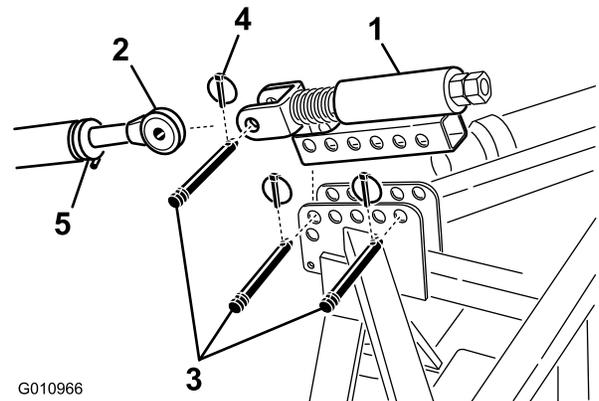

Figure 9
1. Mount the spring loaded top link to the aerator bracket with two link pins and lynch pins (Figure 9)
2. Loosen the lock nut on the tractor upper link. Adjust the upper link length until it aligns with the clevis on the spring loaded top link of the aerator (Figure 9).
3. Connect the tractor upper link to the clevis on the spring loaded top link and secure with a link pin and lynch pin (Figure 9).
6. Rotate the upper link until the spring is compressed by about 1/2 inch (Figure 9).